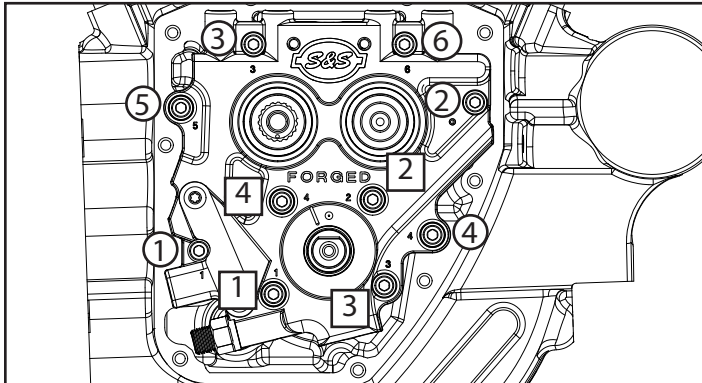

Figure 2
10. Install cam plate, oil pump, and cams per the factory manual or instructions provided by manufacturer of aftermarket cams or oil pump. S&S recommends that all mounting hardware on cam support plate and oil pump be tightened to 100 in-lb using the torque sequences shown in **Figure 2**. Cam support plate fasteners are shown in circles. Oil pump fasteners are shown in squares.